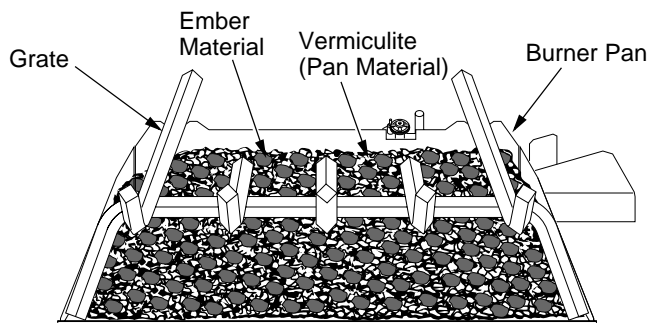

Figure 21 - Ember Material on Surface of Pan Material (Vermiculite)
3. Remove the ember material from the bag and flatten small amounts into quarter size pieces and lay on top of the surface of the pan material (see Figure 21).